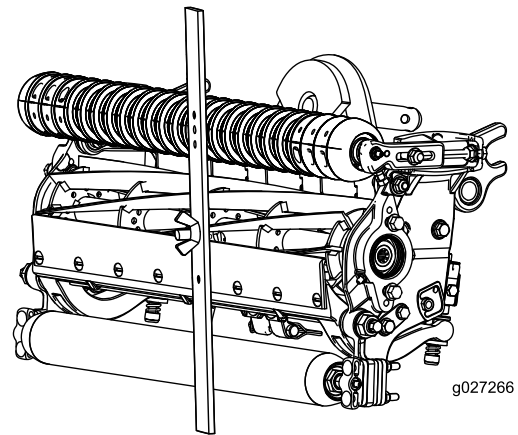

Figure 17
4. Hook the screw head on the cutting edge of the bedknife and rest the rear end of the bar on the rear roller (Figure 17).
5. Rotate the adjusting screw until the front roller contacts the gauge bar (Figure 17). Adjust both